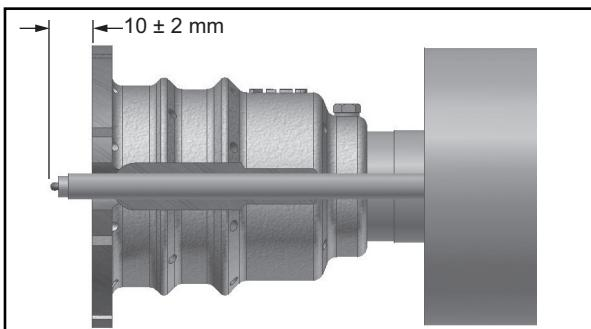
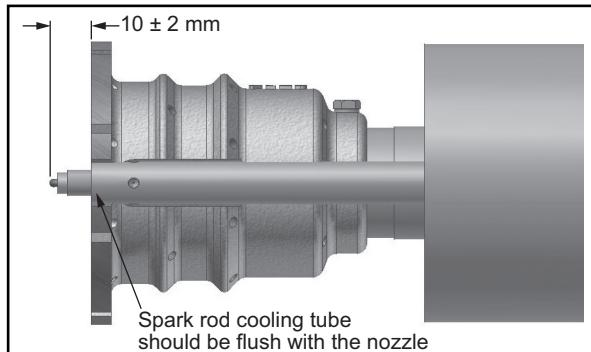

Figure 3.7
Figure 3.8
2. Thread igniter through rear cover and hole in nozzle. See Figure 3.7 for burners without spark rod cooling and Figure 3.8 for models with cooling.